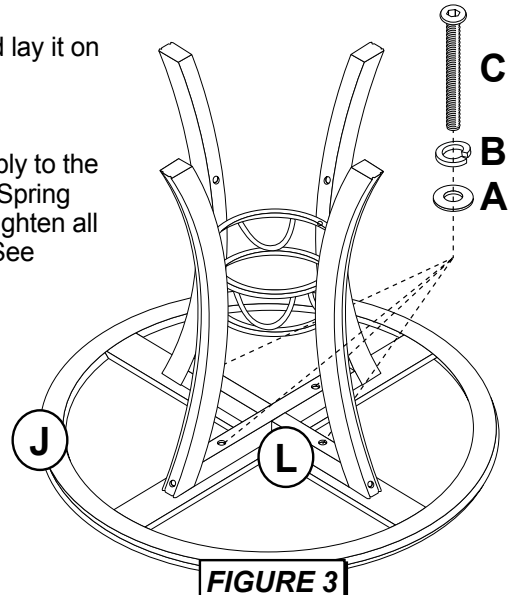

FIGURE 3
Next attach the Front Legs (L) to the Seat Base (J) using 2 Allen Bolts (B), 2 Spring Washers (D) and 2 Metal Washers (E) per leg as well as 1 Sunk Bolt (A) from the top. See **Figure 3**.
Finally attach the Leg Brace (L) assembly to the Table Top (J) using 4 Allen Bolts (C), 4 Spring Washers (B) and 4 Flat Washers (A). Tighten all bolts. The assembly is now complete. See **Figure 3**.